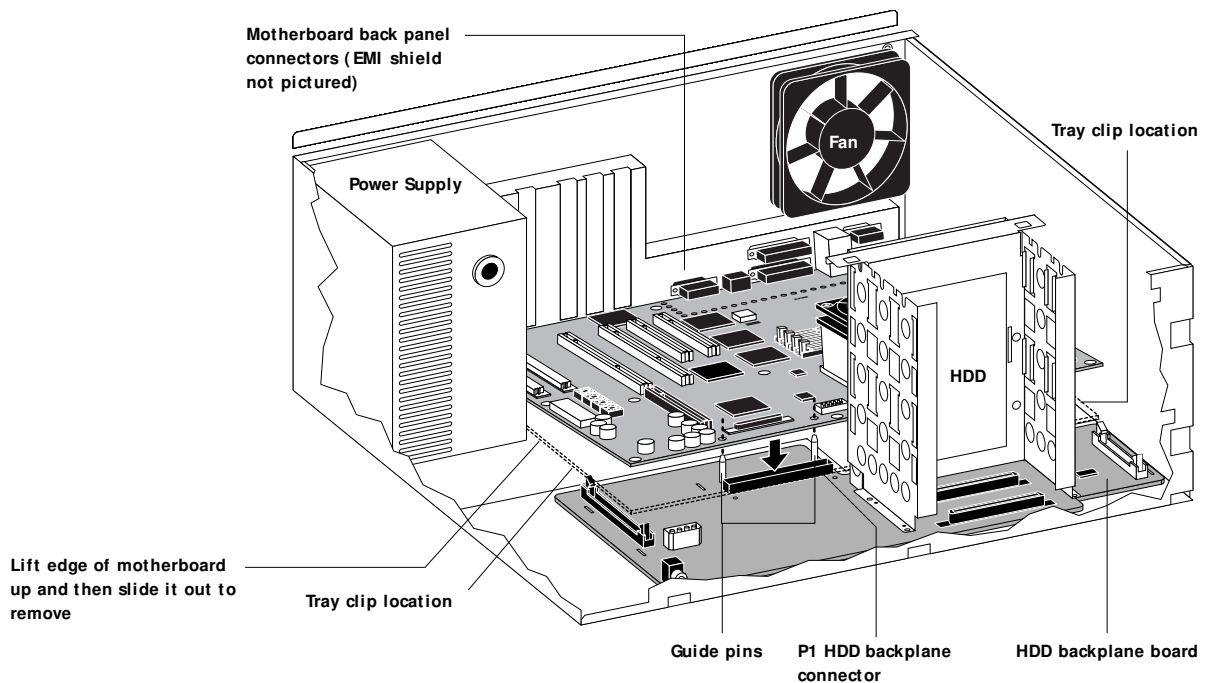

FIGURE 4-20 Removing the motherboard
4. Push outward on one of the tray clips around the edge of the motherboard and then gently lift up that edge of the motherboard to release it (see Figure 4-20).
5. Push outward on the other motherboard tray clip and then lift up that edge of the motherboard to release it (see Figure 4-20).
7. Gently slide the motherboard out of the Fiery ZX tray (see Figure 4-20).
3. **Angle the motherboard so that the back panel connectors on the motherboard fit into the cutouts in the back of the tray, and the edge of the motherboard fits underneath the three tray clips. See Figure 4-20 on page 4-26.**
4. **Align the guide holes in the motherboard with the guide pins located on either side of connector P1 on the HDD backplane board (see Figure 4-20 on page 4-26).**